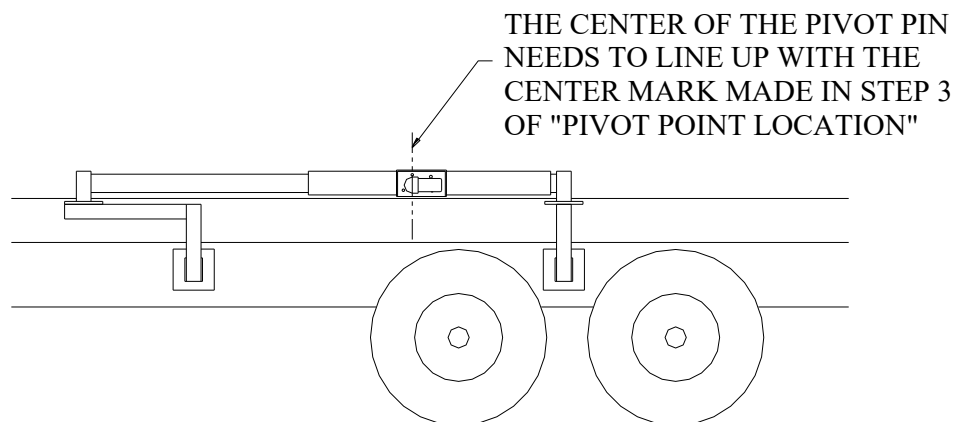

Figure 10
6) Set the driver's side pivot on the up-right legs and center the pads on the tubing as shown below in figure 10.